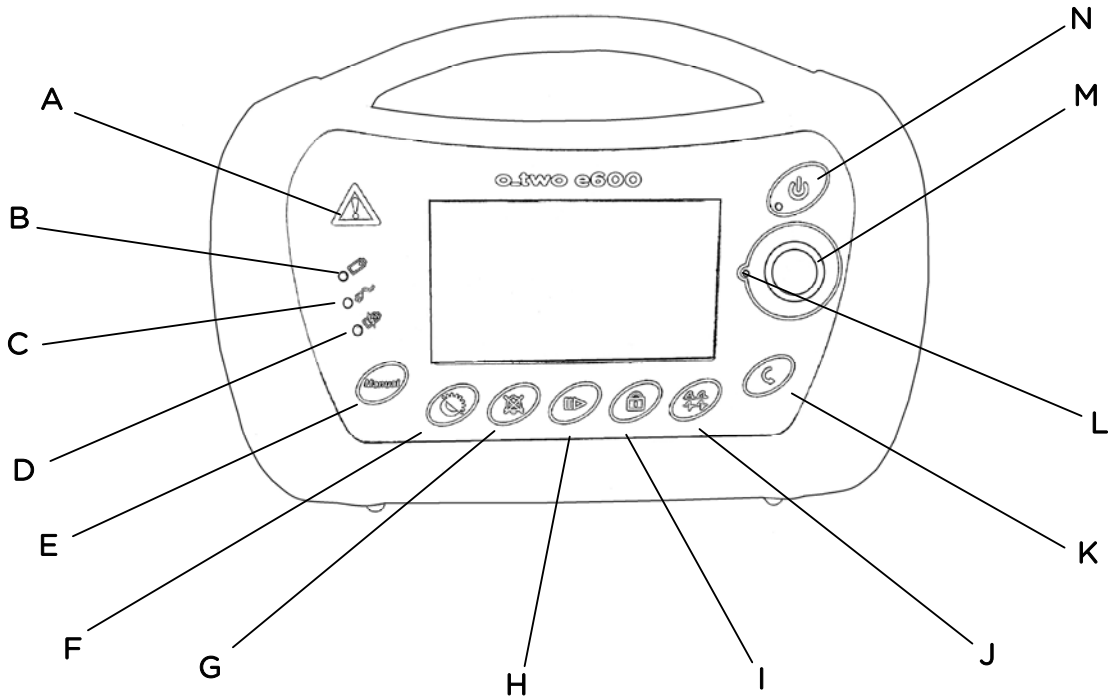

Figure 1
While all ventilation parameter settings are controlled by the Control Selection Knob (M) in Figure 1, there are a number of key membrane buttons which control additional ventilator functions:
To turn on the ventilator, Press the ON/OFF button (N) in Figure 1 for one second, during that second the associated green LED will start flashing at a high frequency. After 1 second the ventilator will turn on but without ventilation until the appropriate patient size symbol is selected. If the button is pressed and released for less than a second, the ventilator will remain OFF.
The Control Selection Knob (M) in Figure 1 is used to navigate between parameters, change modes, select primary function change when rotated, and to confirm function changes when pressed. Diagram below illustrates path of cursor when Control Selection Knob is rotated clockwise.
- 1- Press Lock button (I) in Figure 1. The Lock symbol will be displayed on the screen.
- 2- To cancel the Lock function, press the Lock button (I) again.
Alarm Silence button (G) in Figure 1 will silence audible alarms for 120 seconds. It can also be selected when there is no alarm in order to silence potential alarms. This function is activated or deactivated by pressing the Alarm Silence button once.
Pressing Waveform selection button (J) in figure 1 will switch between the pressure and volume ventilation waveforms displayed on the screen.
The Cancel button (K) in Figure 1 allows the operator to return to the previous settings if the last unconfirmed changes in settings are not required.
During activation of the Pause/ Resume button (H) in Figure 1, the ventilator will stop ventilating with all buttons kept active (if they are not locked) except Manual/ Hold button.
- a. During Pause, there will be an audible alarm associated with the flashing yellow Warning indicator (A) in Figure 1 every 15 seconds. Users can press Alarm Silence button to disable the audible alarm for 2 minutes but the yellow Warning indicator will continue flashing every 15 seconds.
4. To cancel Pause function, press Pause/ Resume button (H) again. The “Resume” symbol will flash on the screen with the confirmation symbol  and the Confirmation indicator (L) to guide users to resume ventilation by pressing the Control Selection Knob (M).
During exhalation phase, if Manual/ Hold button (E) in Figure 1 is pressed, a mandatory breath will be initiated and either the flow rate or set pressure control parameter will be delivered as long as the Manual/ Hold button is pressed or until I-time setting is achieved.